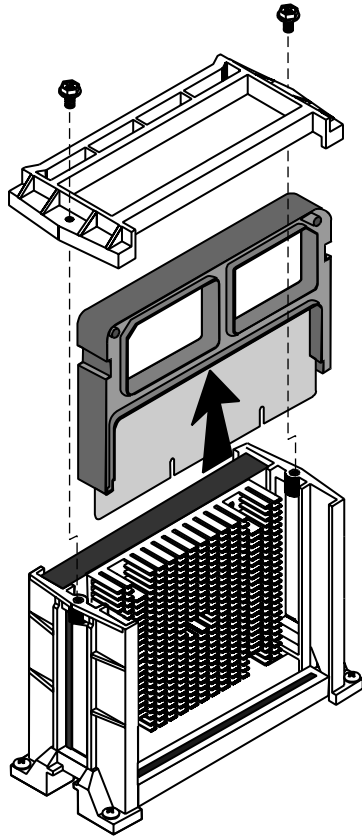

Figure 14: Removing the Terminator Card
4. Remove the Terminator Card from the system board (see Figure 14).